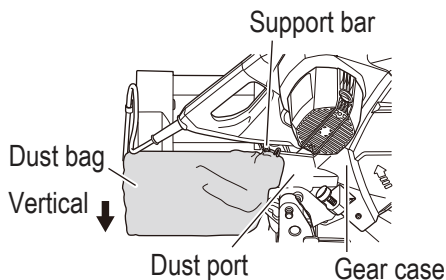

Fig. 7
(1) Installing the dust bag (Fig. 7)